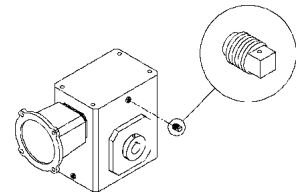

Figure 3.1 -
- Make sure vent plug (*Figure 3.1*) is clean and the orifice is open.